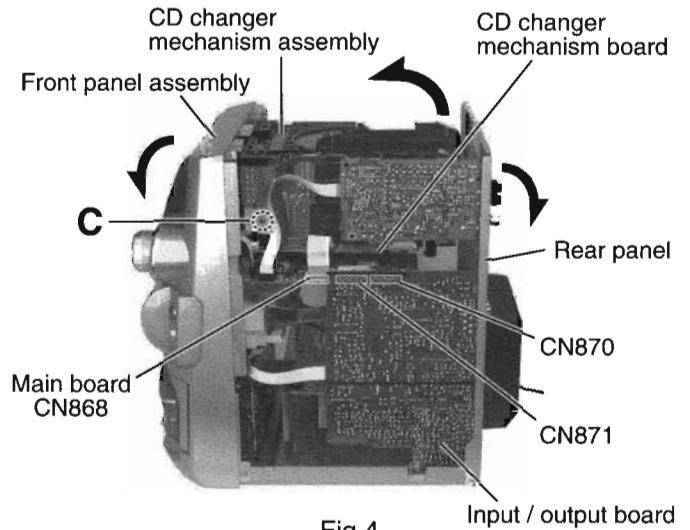

Fig.4
**■ Removing the CD changer mechanism assembly (See Fig.4 to 6)**